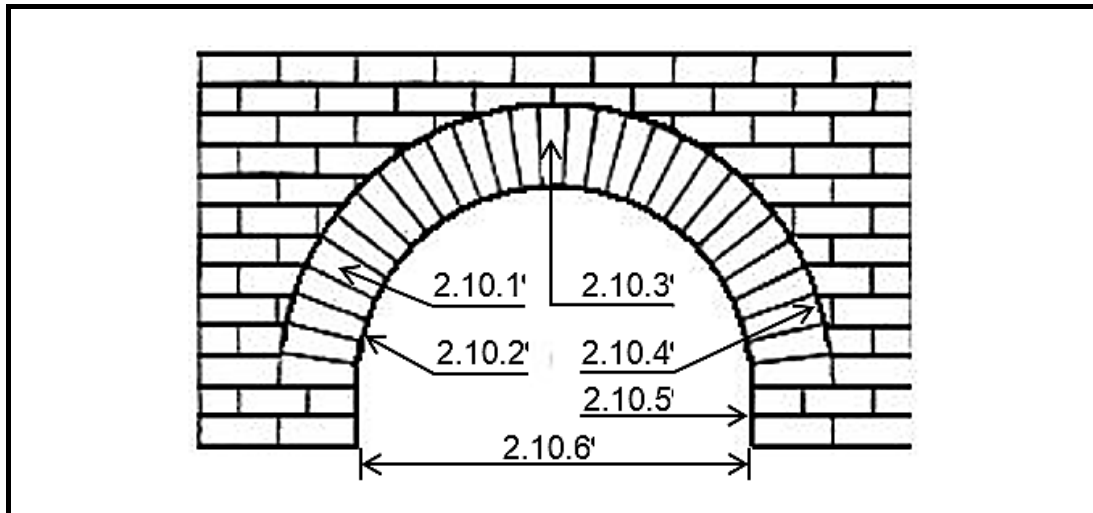

FIGURE 2.10
- 2.10 FIGURE 2.10 indicates a semi-circular gauged arch. Name parts numbered 2.10. 1 to 2.10.6 of the gauged rough arch.